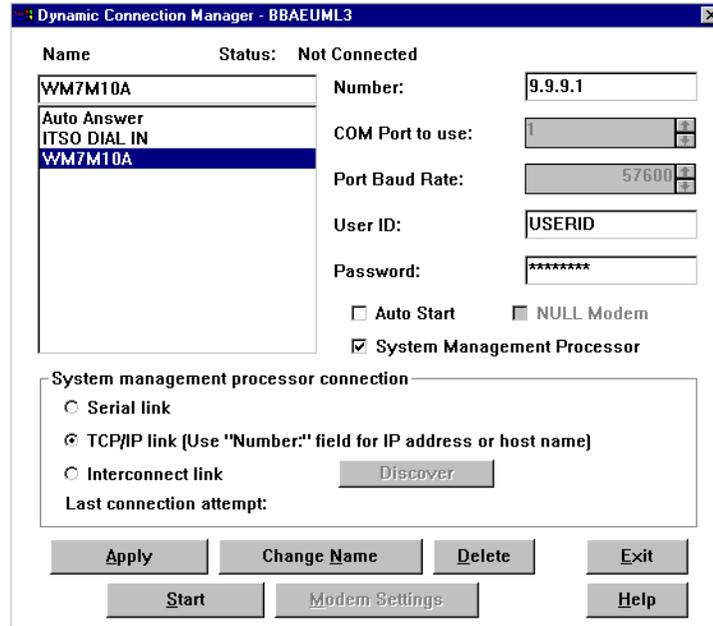

Figure 77. Dynamic Connection Manager
This option is available in Dynamic Connection Manager as shown in Figure 77 on page 103 in Netfinity Manager V5.20.3 onward. In older versions, this option is available in the Serial Connection Control.
2. On your local workstation, configure a dial-out entry in Dynamic Connection Manager (Figure 77 on page 103):
3. On your local workstation, configure an entry in Dynamic Connection Manager (Figure 77 on page 103):
2. On your local workstation, configure an entry in Dynamic Connection Manager (Figure 77 on page 103):
8. Click **Login** to connect to the server. You will then return to the Dynamic Connection Manager window (Figure 77 on page 103).